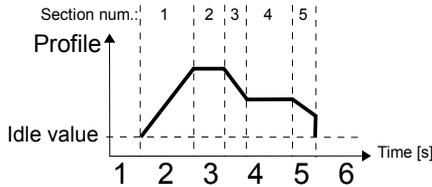

Fig. 7.101. Sample of Profile/timer
- **level (gate)** – this means that the Profile configured by the user when the source signal has the value  $> 0$ , otherwise (if source value  $\leq 0$ ) the defined Profile will not be generated. See Fig. 7.101 and example a) in Fig. 7.102,
- **edge (once)** – this means that the Profile configured by the user will be triggered by the rising edge (from values  $\leq 0$  to the value  $> 0$ ) of the source signal. After the rising edge the Profile will be generated in whole (once), regardless of further changes to the signal source, see Fig. 7.101 and example b) in Fig. 7.102,
- **edge (re-triggering)** – this means that the Profile configured by the user will be triggered by the rising edge (from values  $\leq 0$  to the value  $> 0$ ) of the source signal. However, in this mode, unlike the edge (once) mode the defined Profile will be generated from the beginning every time the Triggering source signal generates an edge, whether that Profile had been completed or not. See Fig. 7.101 and example c) in Fig. 7.102,
Fig. 7.102. Samples of **Profile** output waveforms defined in Fig. 7.101, triggered by signal selected in **Triggering source** parameter for **Triggering mode: level (gate), edge (once), edge (retrig.)**